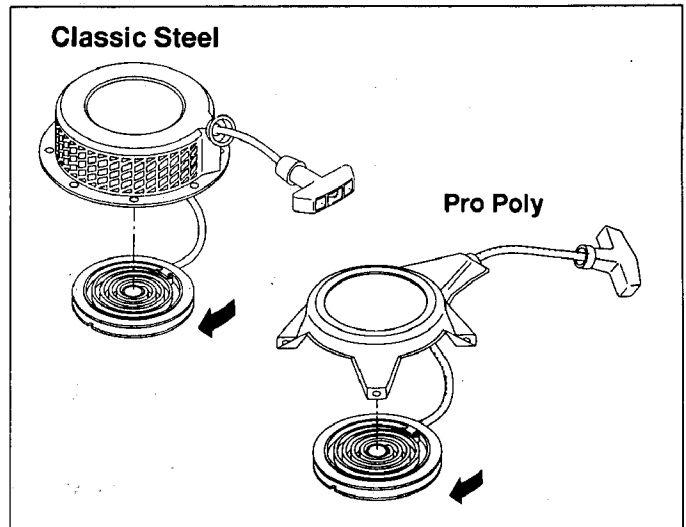

Fig. 9-6
- (3) Prior to installing the reel in the starter case, wind the starter rope in the reel for 2.5 turns in the arrowhead direction as shown in Fig. 9-6. Then let the rope out of the reel from the reel notch. Line up the reel hook with the inner end of the spring and install the reel in the starter case.